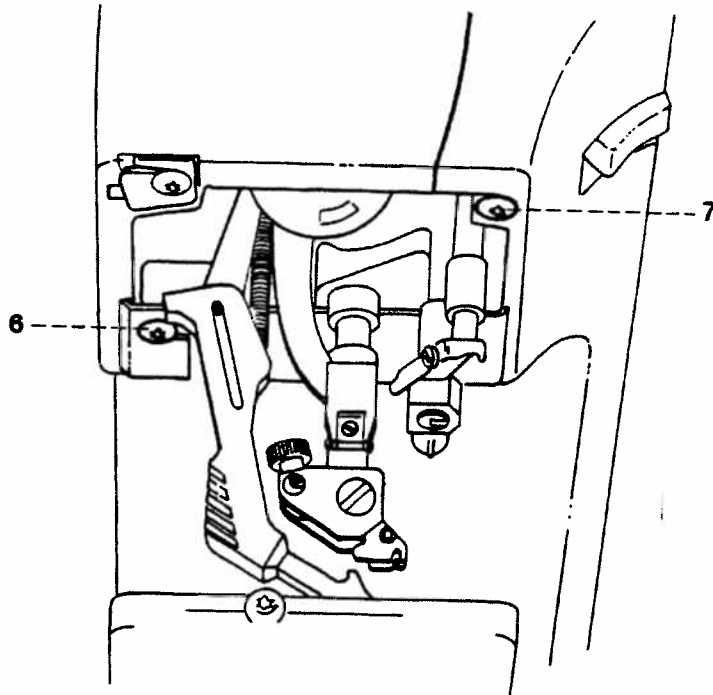

Fig. 5
- Loosen the retaining screws 6, 7, 8, and 9 of the rear housing shell (fig. 5 and 6).